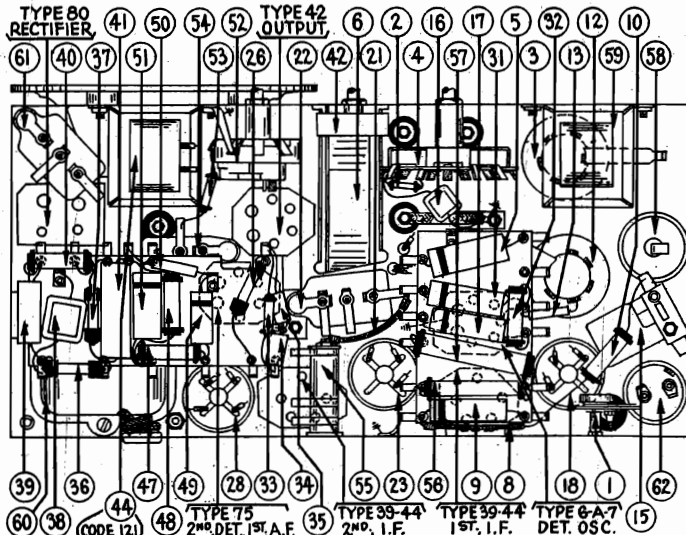

Fig. 4—Bottom View Showing Parts
ADJUSTMENT OF THE WAVE TRAP—Replace the grid clip upon the Detector-Oscillator tube (Type 6A7). Connect the output leads from the signal generator directly to the antenna and ground terminals of the receiver. Set the Wave-Band Switch of the receiver to the standard broadcast band (left hand position) and the Station Selector at the low frequency (540 K.C.) end. Adjust the Wave Trap condenser to give MINIMUM response to a 460 K.C. signal from the signal generator. The Wave Trap ① is located at rear and underneath the chassis, and is shown in Figure 4. It is reached from the rear of the chassis, by inserting the fibre wrench thru the hole near right-hand rear corner of chassis.
Finally set the signal generator at 600, tune in this signal and adjust the oscillator "L. F. condenser", located underneath chassis ⑬ in Fig. 4) to maximum reading. This adjustment is reached thru the hole in top of chassis, between the two electrolytic condensers (left hand end of chassis when facing rear).